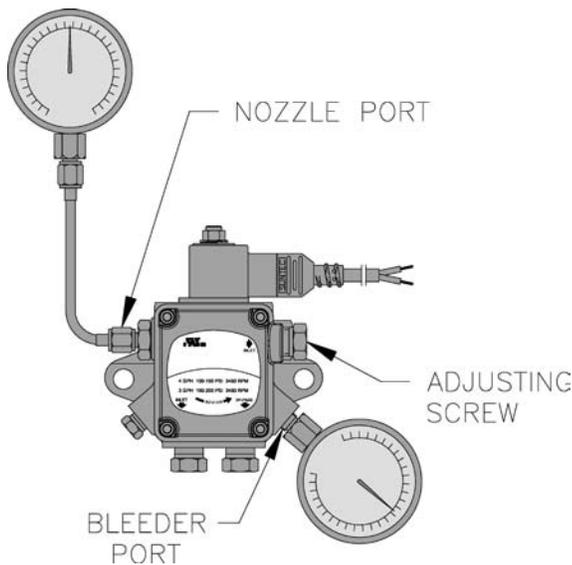

Figure 23: Adjusting Fuel Pump Pressure
- a. When checking a fuel unit's operating pressure, a reliable pressure gauge may be installed in either the bleeder port or the nozzle port. See Figure 23.